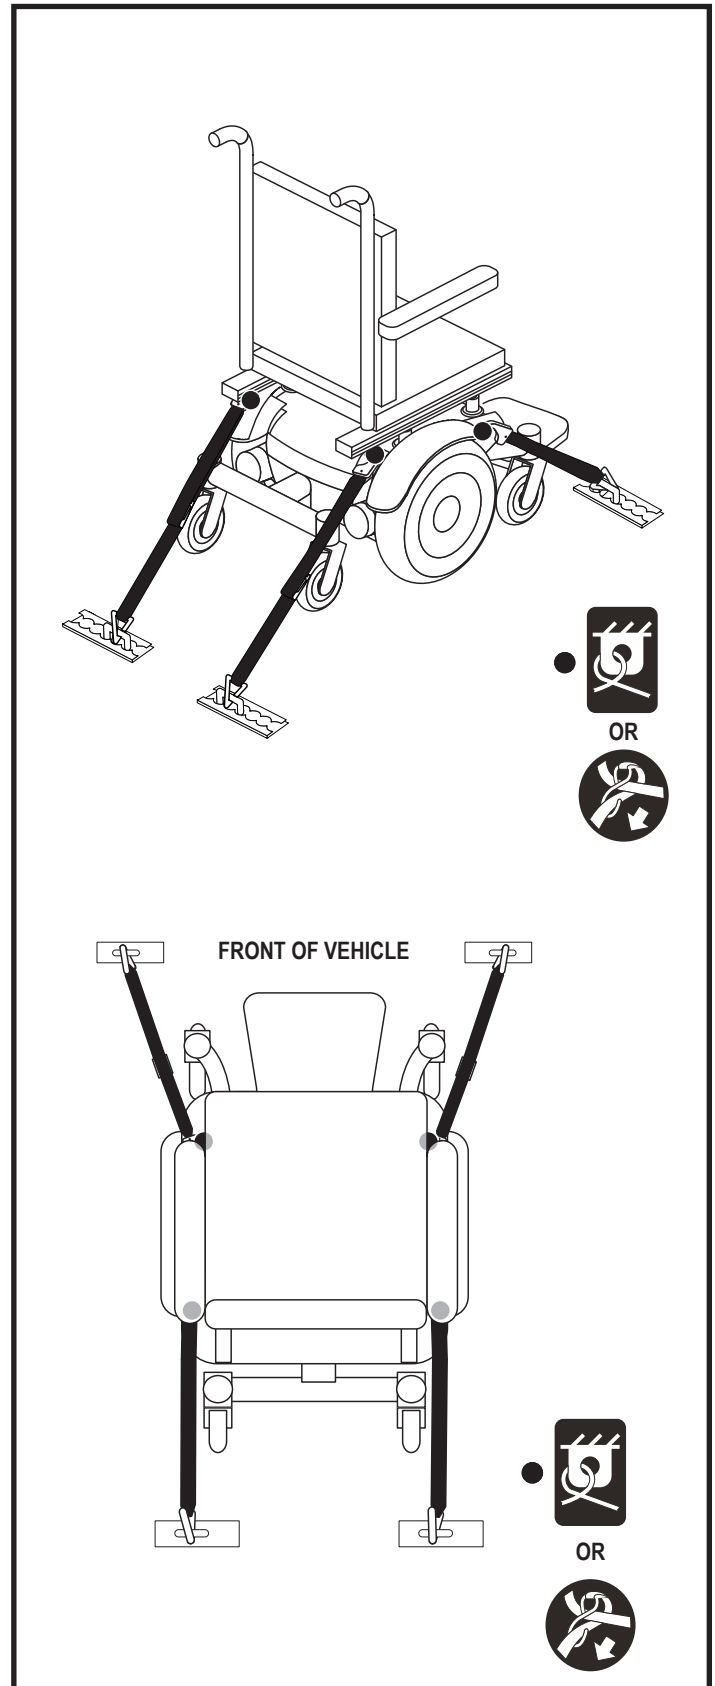

Figure 6. Unoccupied Transit System Securement Points
- Attach the four tie-down straps to only designated, labeled transit securement points indicated by anchor symbols on the power chair. See figure 6. Tighten the straps to sufficiently remove all slack.
- Position the anchor points for the rear tie-down straps directly behind the rear securement points on the power chair. The front tie-down straps should be anchored to floor points that are spaced wider than the power chair to provide increased stability. See figure 6.